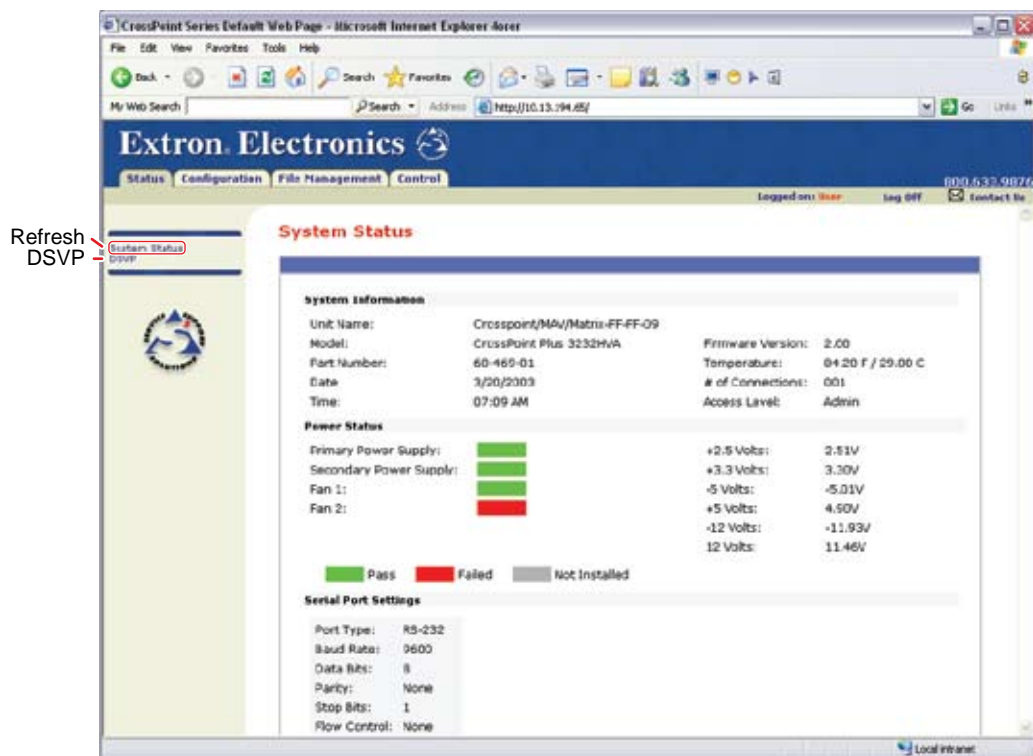

Figure 6-2 — System Status page
- If neither of the above conditions is true**, the switcher downloads the factory-installed default startup page, “nortxe_index.html” (figure 6-2), also known as the System Status page.
The System Status page (figure 6-2) provides an overall view of the status of the matrix switcher, including the primary and secondary power supply status, the individual voltages, and the fan status (if applicable). The System Status page is the default page that the switcher downloads when you connect to the switcher. Access the System Status page from other pages by clicking the **Status** tab.